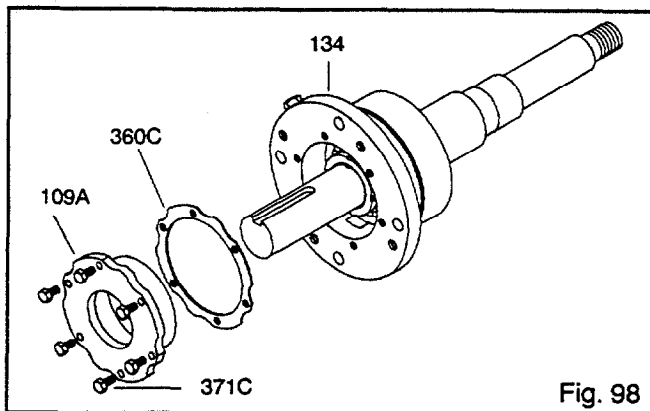

Fig. 98
7. Install gasket (360C), end cover (109A), and bolts (371C). Refer to Table 9 for bolt torque values. Check shaft for free turning (Fig. 98).